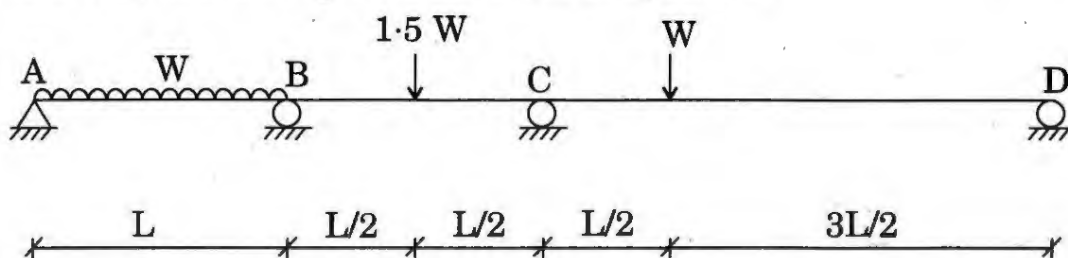

Figure 12
- (c) Determine the collapse load in a three-span continuous beam shown in Figure 12. It has a moment capacity of M_p over the exterior spans AB and CD, and $1.5 M_p$ over the interior span BC. 20